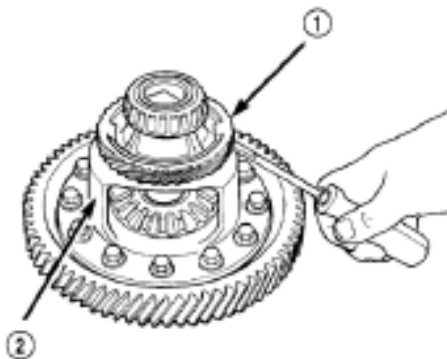
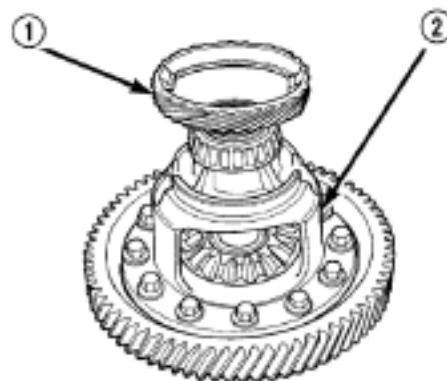

Figure 3-84 Prying out the speed meter drive gear
Figure 3-85 Disassembly of speed meter drive gear
(3) Pry out speed meter drive gear with a screwdriver (Figure 3-84 and Figure 3-85).